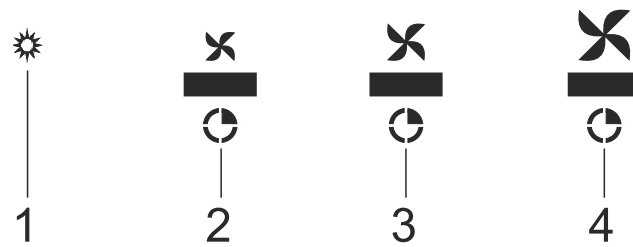

Fig. 15
1. ➤ Press this button to turn on or off the lamp (Fig. 15 /1).
2. ➤ Touch this button to run the product at first speed level (Fig. 15 /2).
3. ➤ Touch this button to run the product at second speed level (Fig. 15 /3).
4. ➤ Touch this button to run the product at third speed level (Fig. 15 /4).
5. ➤ **Timer:** When you press any speed buttons for a long time a 15 minute timer function will be enabled, when this feature is enabled the lamp on the button will flash and after 15 minutes the motor will stop automatically (Fig. 15 /2,3,4)